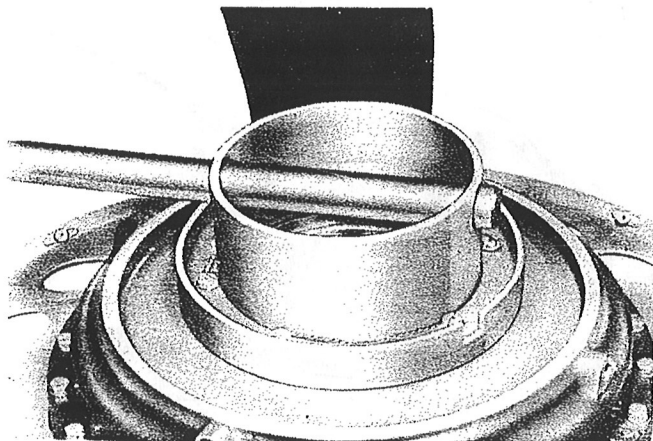

Figure 46—Loosening Regulator Nut
(3) Loosen the regulator nut. The regulator nut has a *left-hand thread*. Use a 4-foot bar through the wrench and turn clockwise to loosen. (See figure 46.) Hold the wrench securely in the dovetails so that the